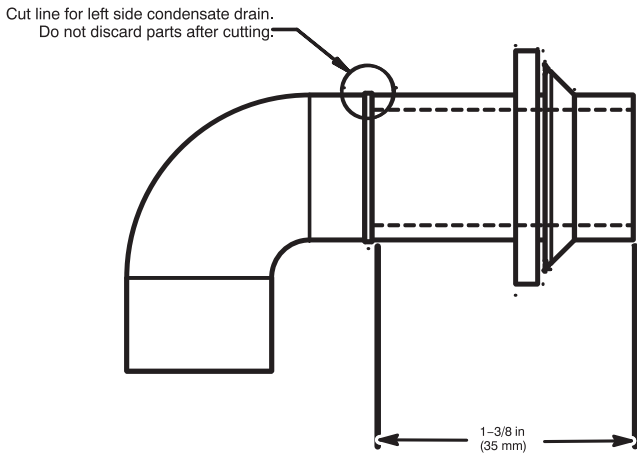

Fig. 16 - Modify Rubber Drain Elbow
3. The Z-pipe is connected to the condensate trap and the outside of the furnace by modifying the formed rubber drain elbow as shown in Fig. 16.
4. Remove the formed grommet from the rubber drain elbow by cutting the elbow along the vertical line located about 1-3/8 in. (35 mm) away from the formed grommet. See Fig. 16. **DO NOT DISCARD THE FORMED GROMMET OR THE RUBBER ELBOW.** Both of these pieces will be used.
TIP FROM CONTRACTORS: When installing the furnace horizontally, use the entire drain elbow (that is, do NOT cut as shown in Fig. 16 to connect the trap to the drain line. This helps to prevent bumps and shocks to the drain line from damaging the furnace drain trap. Avoid misalignment of the drain pipe which may cause kinks in the elbow.